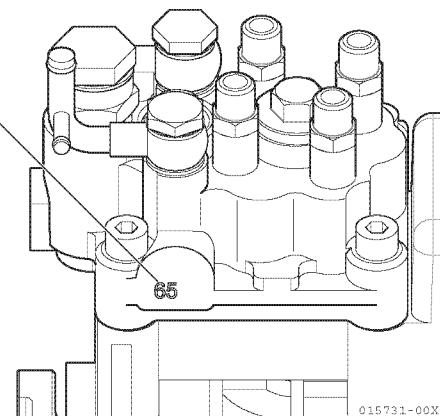

Figure 6-71
- Calculate the difference between the timing index numbers (**Figure 6-71, (1)**) of the fuel injection pump that you removed and the replacement fuel injection pump. See *Calculation Example* below.